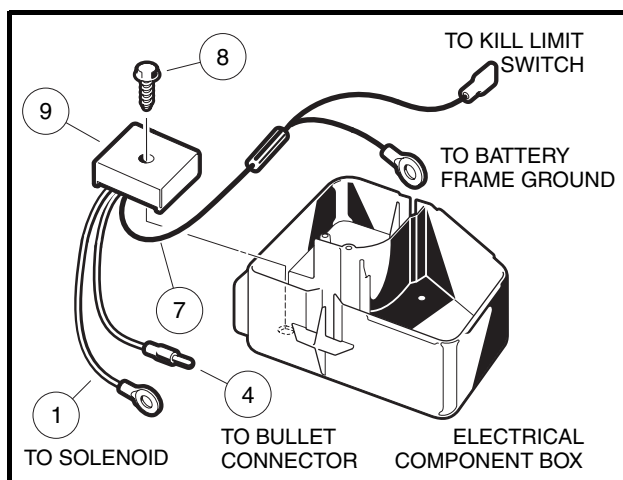

Figure 12-15 Voltage Regulator
5. Disconnect the voltage regulator red wire (1) at the large post on the solenoid, the yellow wire (4) at the bullet connector, and the black wire (7) from the wire harness and at the battery frame ground (**Figure 12-15, Page 12-11**).
6. Remove the voltage regulator mounting screw (8) and remove the voltage regulator (9).
1. Position the voltage regulator (9) in the electrical component box and install the mounting screw (8) and tighten screw to 23 in-lb (2.6 N·m) (**Figure 12-15, Page 12-11**).
2. Connect the voltage regulator red wire (1) at the large post on the solenoid with the other red wires, the yellow wire (4) at the bullet connector, and the black wire (7) to the wire harness and the battery frame ground (**Figure 12-15, Page 12-11**).